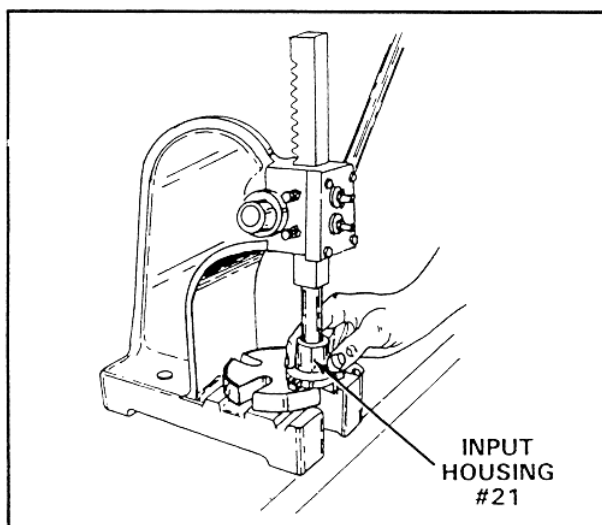

FIGURE 2
- 3.08 With a suitable arbor push both needle bearings (#22) through housing (#21) as shown in figure 2. (**CAUTION: DO NOT SUPPORT INPUT HOUSING ON THREE BOLT HOLE TABS**).